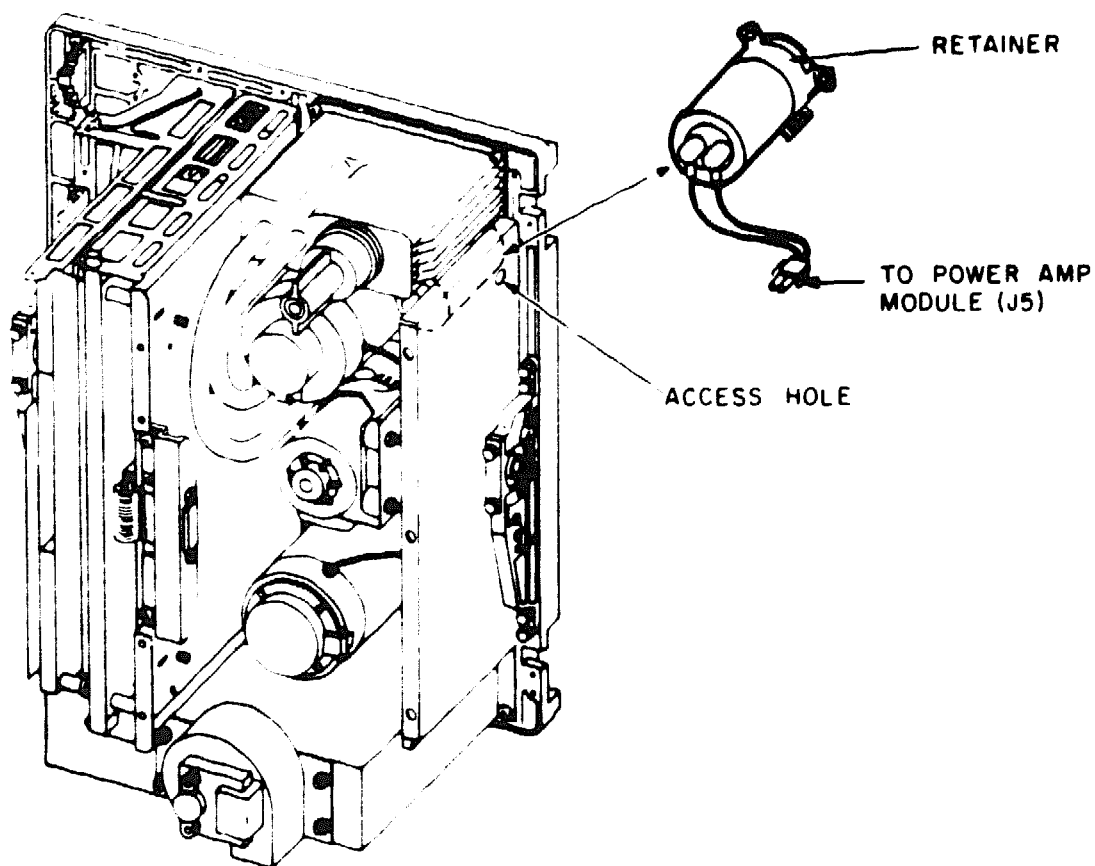

Figure 5-34. CAPACITOR ASSEMBLY
2. Remove the capacitor connector from J5 of the Power Amplifier module. See Figure 5-34.
3. Insert a screwdriver through the access hole (see Figure 5-34) and loosen the screw holding the capacitor in the retainer. Remove the capacitor from the retainer.